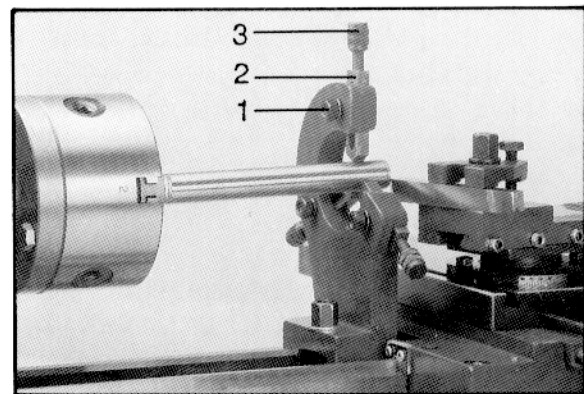

Fig. 28
1. Loosen three hex nuts (1, Fig. 28)
2. Loosen knurled screw (3, Fig. 28) and open the sliding fingers (2, Fig. 28) until the steady rest can be moved with its fingers around the workpiece. secure the steady rest in position.
3. Tighten knurled screws so that fingers are snug but not tight against the workpiece. Tighten three nuts (1, Fig. 28). Lubricate the sliding points with machine oil.